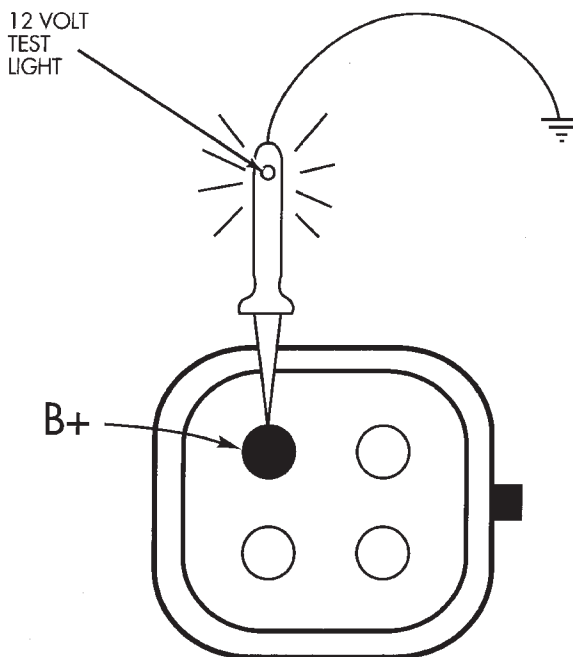

Fig. 20 Ignition Coil Engine Harness Connector
(1) Check battery voltage. Voltage should be approximately 12.66 volts or higher to perform failure to start test.
(2) Disconnect the harness connector from the coil pack.
(3) Connect a test light to the B+ (battery voltage) terminal of the coil electrical connector and ground as shown in (Fig. 20). The B+ wire for the DIS coil is dark green with an orange tracer. **Do not spread the terminal with the test light probe.**